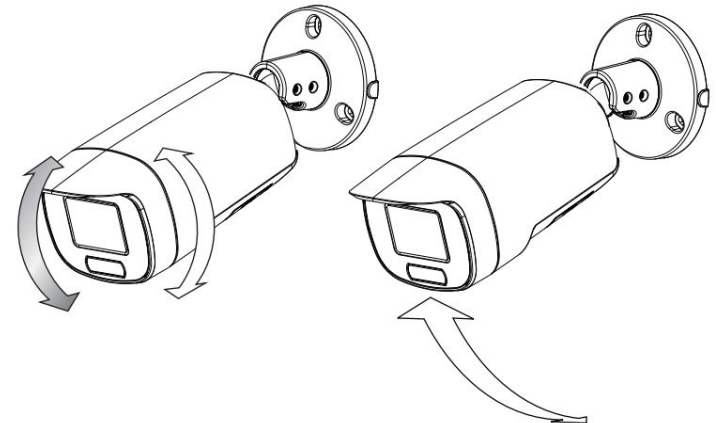

Figure 1-4
Step 4 Reposition the camera as needed, then tighten down the adjustment screws after you have set the camera to the desired position. See Figure 1-4.